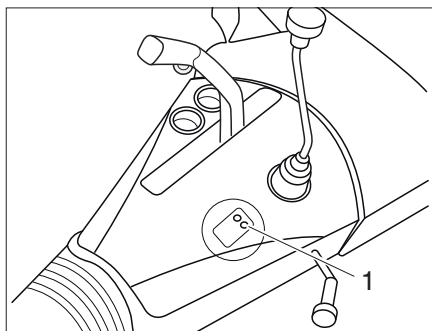

Fig. 2 LED of the ATC (AL-KO Trailer Control)
A self-test is carried out, the LED (Bild 2,1) lights up red.
- After the self-test the LED (Bild 2,1) lights up green, the ATC is active.